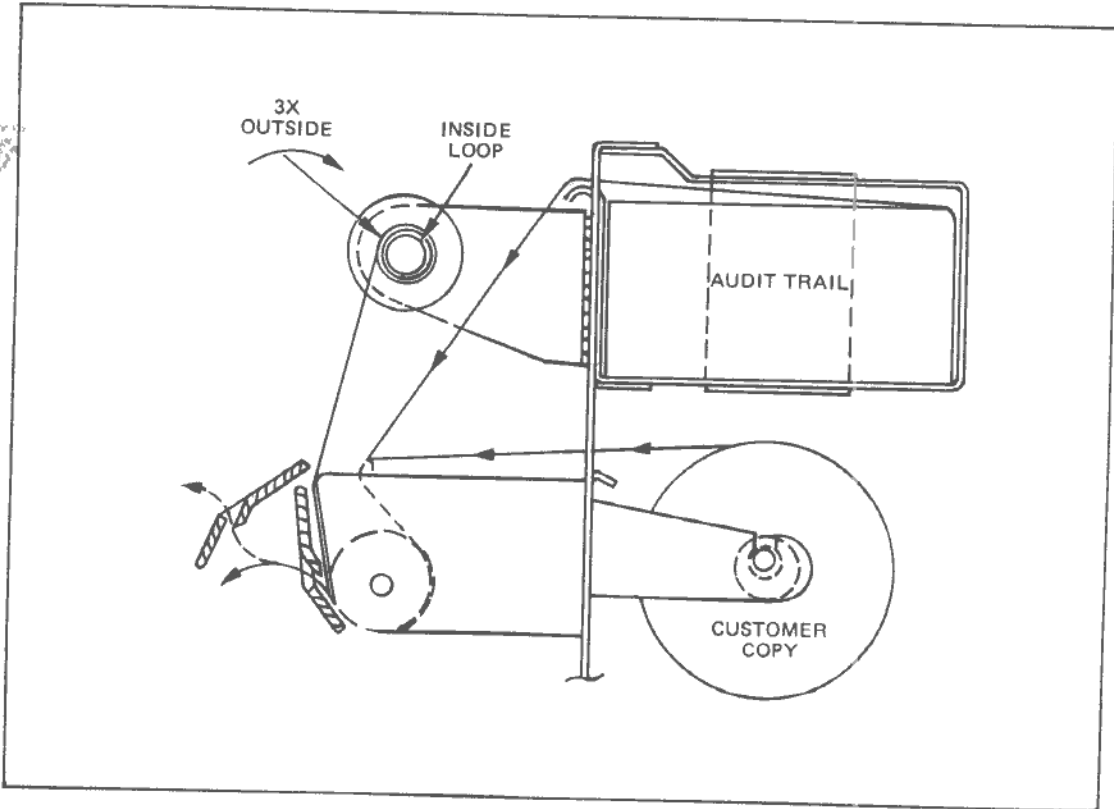

Figure 3-31. Transaction Printer Mechanism
12. Insert the audit trail paper one turn inside the spool and then wind the spool three turns clockwise. Refer to figure 3-31.